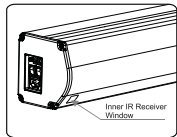

Figure 28
2. When there's nothing to keep out of the IR window, you can use the controller to control up/pause/down of the screen (Figure 28).